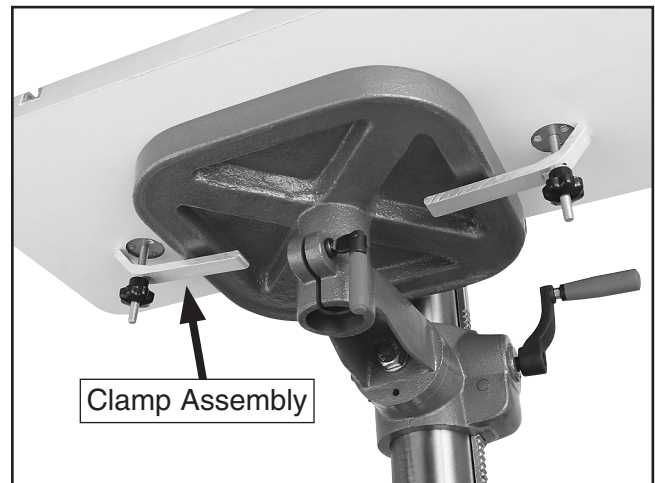

Figure 2. Installed table.
2. Place the Model H7827 table onto the drill press table, align the clamps as shown in **Figure 2**, and snug the clamps in place.